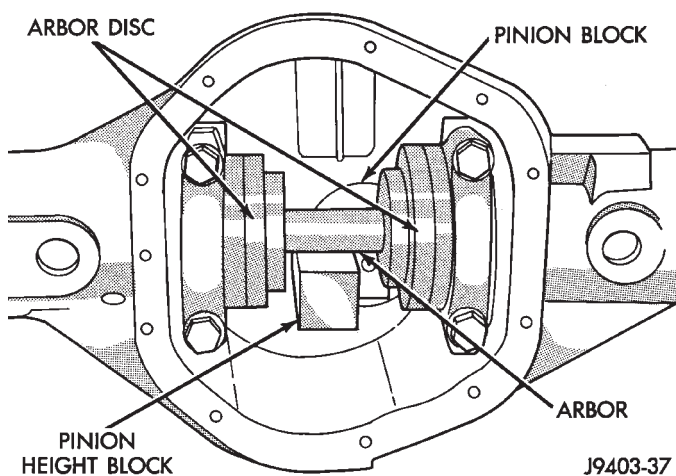

Fig. 68 Gauge Tools In Housing—Typical
(4) Place Arbor Disc 6732 on Arbor D-115-3 in position in axle housing side bearing cradles (Fig. 68). Install differential bearing caps on Arbor Discs and